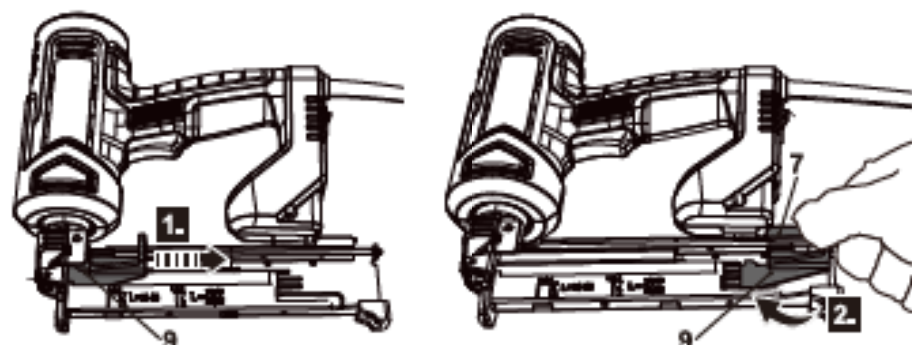

Fig. 2
2. Pull the fastener retainer (9) out of the back of the nailer/stapler until it stops (Fig. 2, step 1).
3. Hold the fastener retainer (9) and rotate it 90° clockwise. Before releasing, ensure that its slot engages in the retainer holder (7) (Fig. 2, step 2).